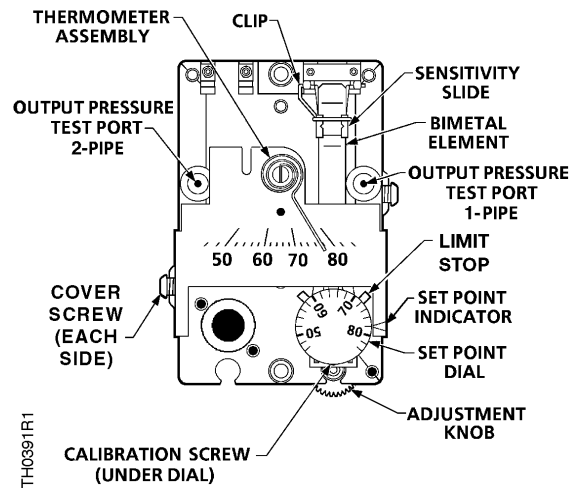

Figure 6. TH 192 S Thermostat Details.
2. Place a screwdriver in the center of the thermometer assembly (Figure 6). Carefully rotate thermometer assembly until pointer tip indicates the correct room temperature.